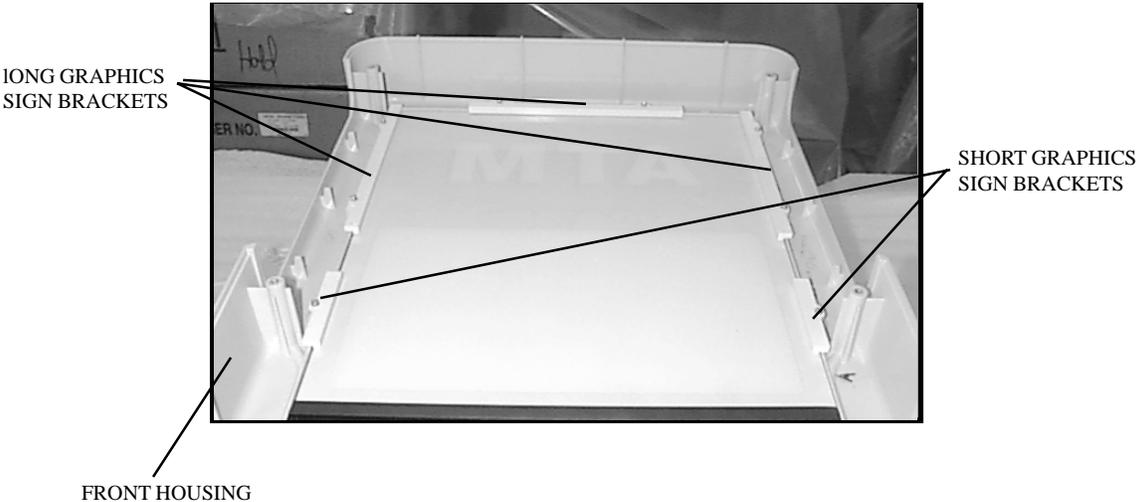

FIGURE 4-6
15. Insert the Front Graphics Sign into the Front Housing Assembly so that it is visible from the outside. Place three of the Long Sign Brackets and two of the Short Sign Brackets on the inside of the Front Housing, as shown in Figure 4-6. The “toe” of each bracket should face down toward the Graphics Sign.
16. Take the 14” piece of black plastic molding and place it on the bottom of the Front Graphics Sign. Take the red Plexiglas and insert it into the other side of the molding. The three pieces should fit properly into the Front Housing. (See Figure 4-6.)